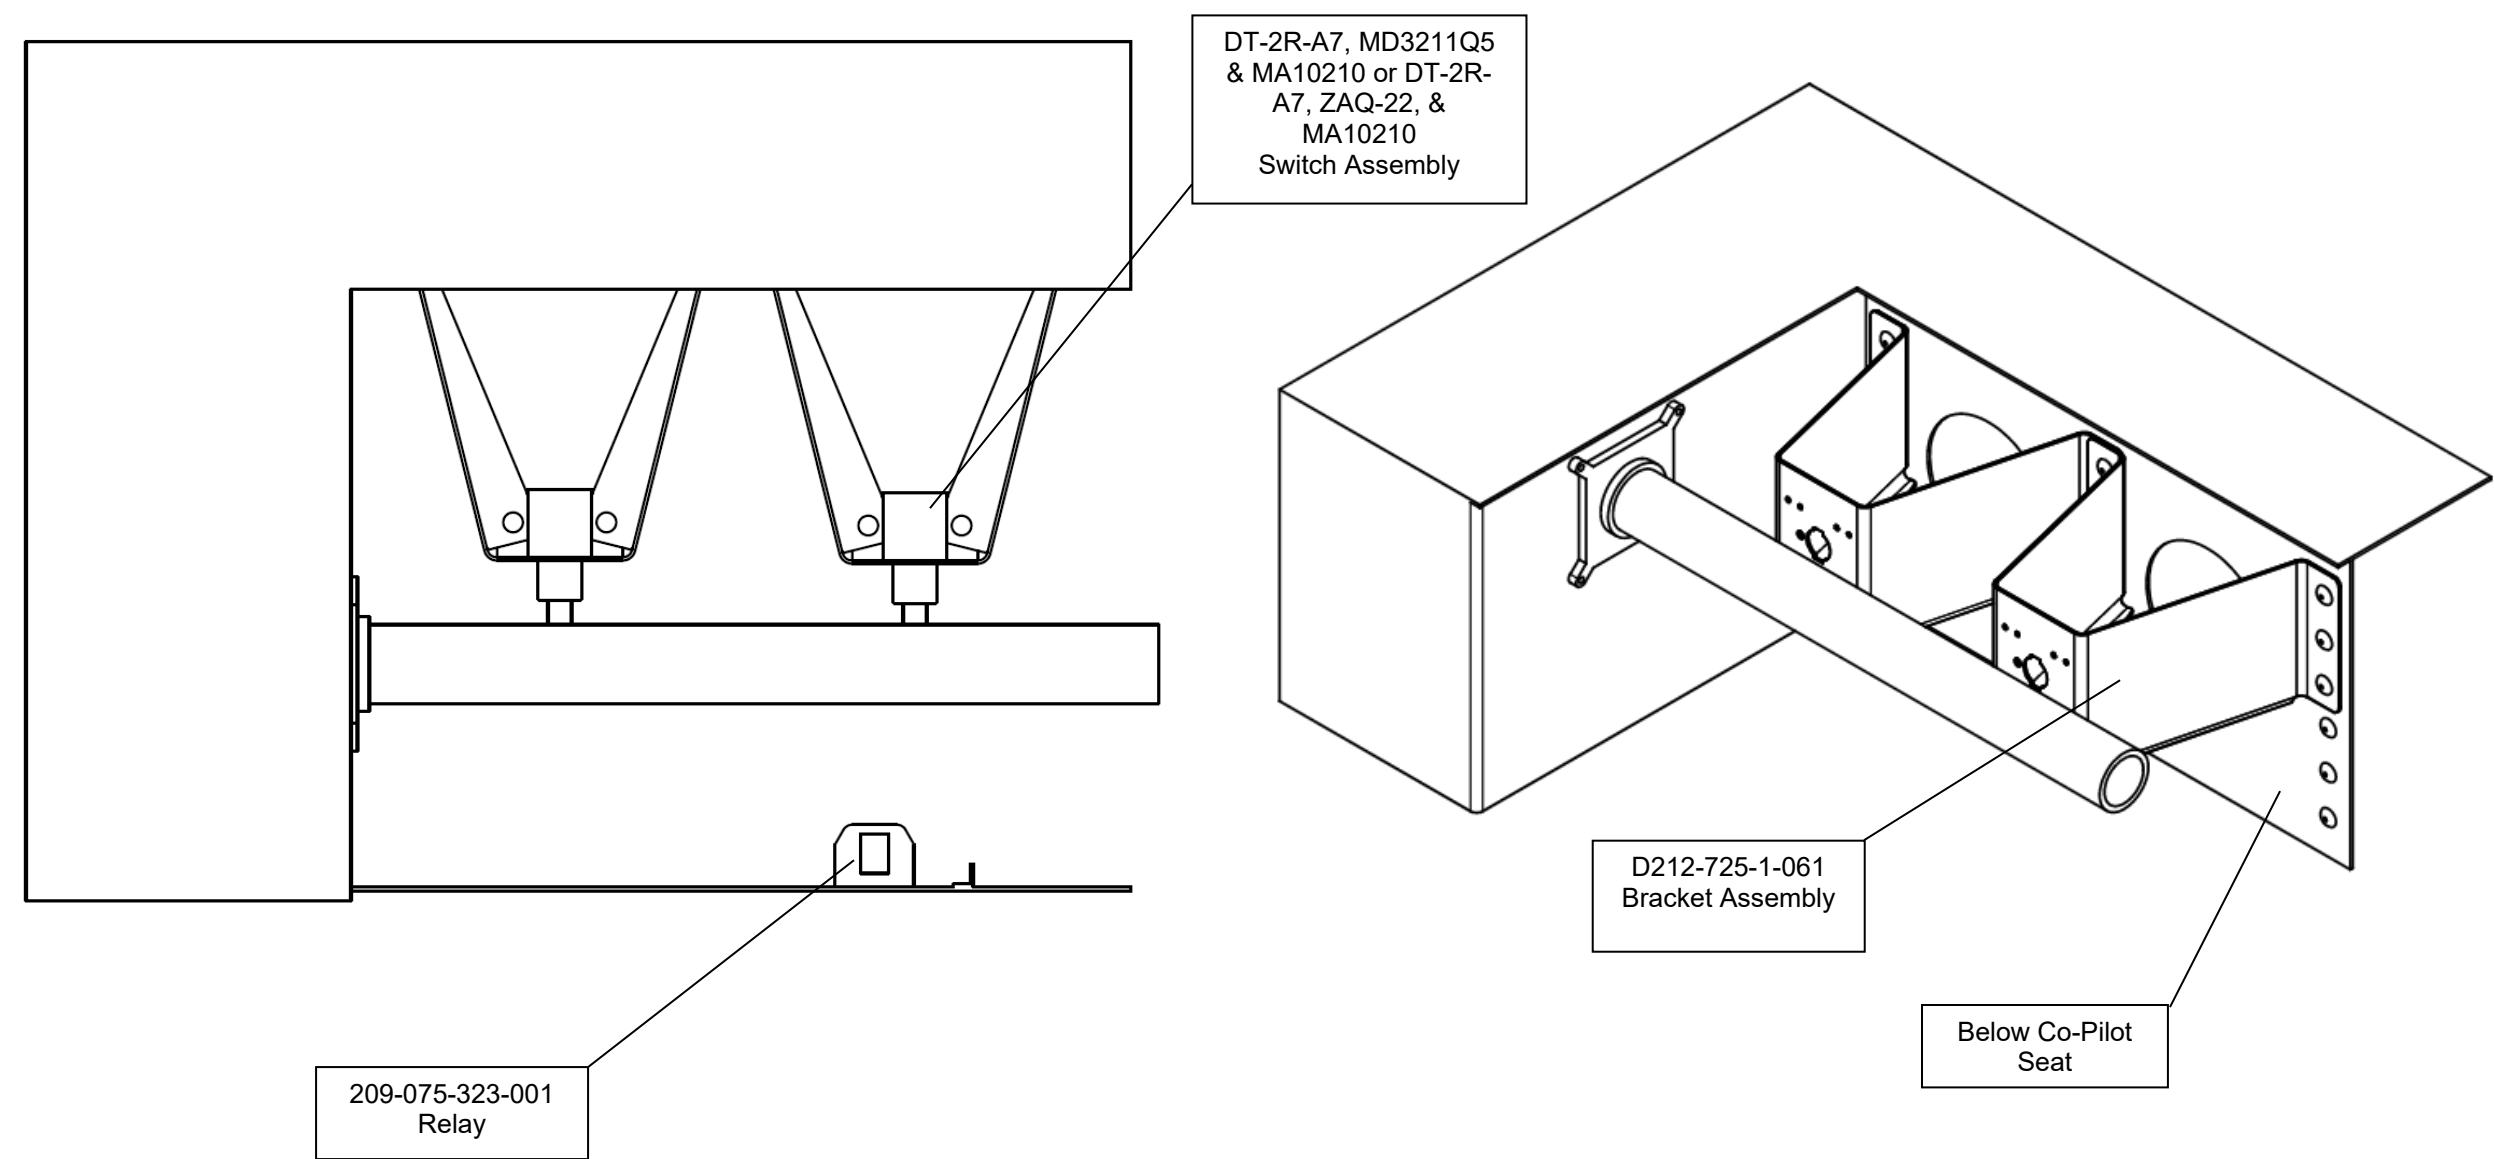

Figure 5 – Bracket Assembly/Relay/Switch Installation
6. Install bracket and switch in accordance with Figure 5 using HL64BP6-4 Hi-Lok fasteners. The D212-725-1-061 bracket overlaps and uses common fasteners for the forward leg. Fabricate a shim from 0.040" AMS-QQ-A-250/5 2024-T3 sheet to suit the D212-725-1-061 bracket installation.
7. Install relay onto existing mounting point under co-pilot seat using 2x MS35206-215 in accordance with Figure 5.
4. Install bracket and switch in accordance with Figure 5 using HL64BP6-4 Hi-Lok fasteners. The D212-725-1-061 bracket overlaps and uses common fasteners for the forward leg. Fabricate a shim from 0.040" AMS-QQ-A-250/5 2024-T3 sheet to suit the D212-725-1-061 bracket installation.